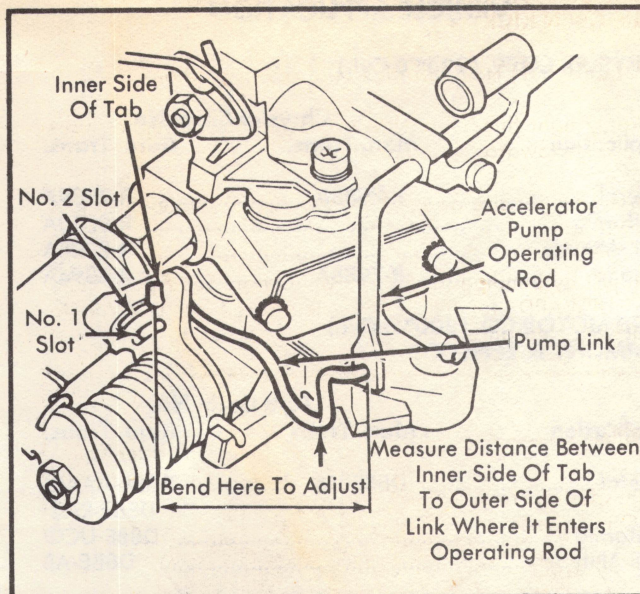

Fig. 3 View Of Accelerator Pump Operating Link Showing Measurement Points (Ford)
3) Measure pump link as shown in Fig. 3.
Ford Motor Co. — 1) Measure length of pump link as shown in Fig. 3.